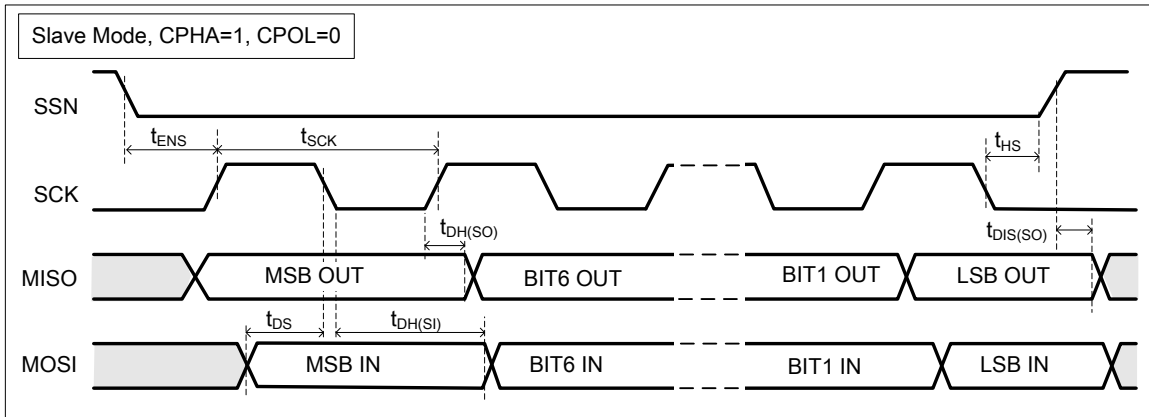
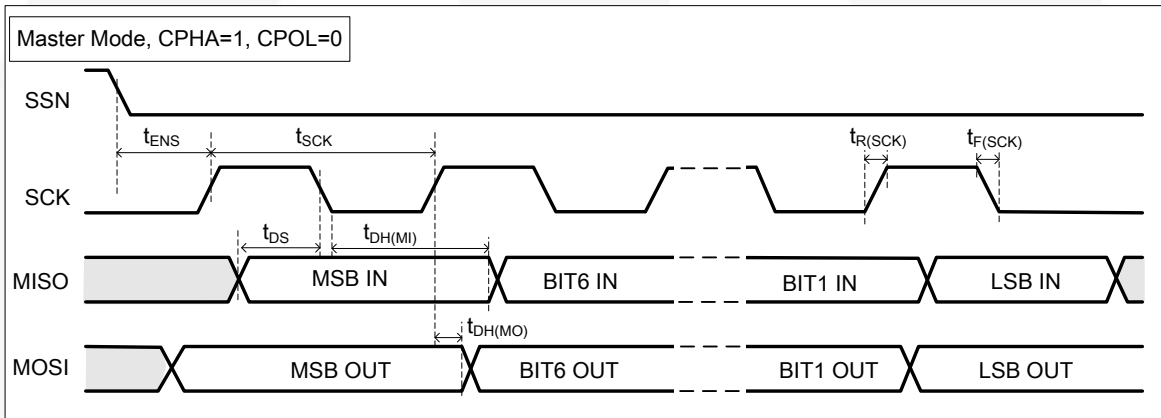

Figure 6. SPI Timing Diagram– Slave Mode
Figure 7. SPI Timing Diagram – Master Mode
- SPI timing diagrams as Figure 6 and Figure 7.